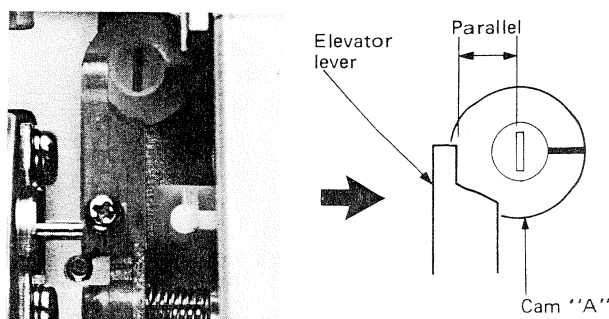

Fig. 14
- (1) Set the arm height adjustment cam "A" as shown in Fig. 14 in reference to the elevator lever.
- (2) While pushing the elevator lever against cam "A" with a finger, turn the lead terminal section of the motor rotor fully clockwise, then return it about 8° and tighten the setscrew.